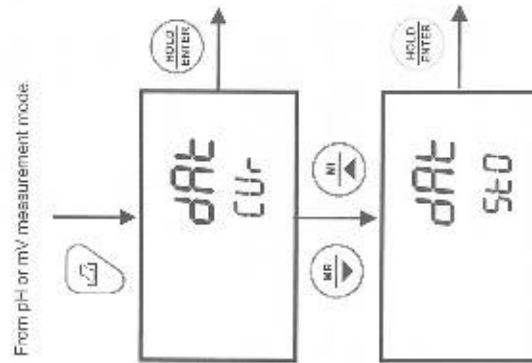

Figure 23: Print data based on timed interval or from memory
2. Use MI/▲ or MR/▼ key, select "dAt - StO" option and press HOLD/ENTER key. See Figure 23.